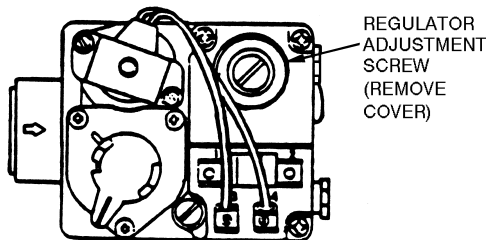

Fig. 56 — Gas Valve
6. Remove screw cap covering regulator adjustment screw (see Fig. 56).